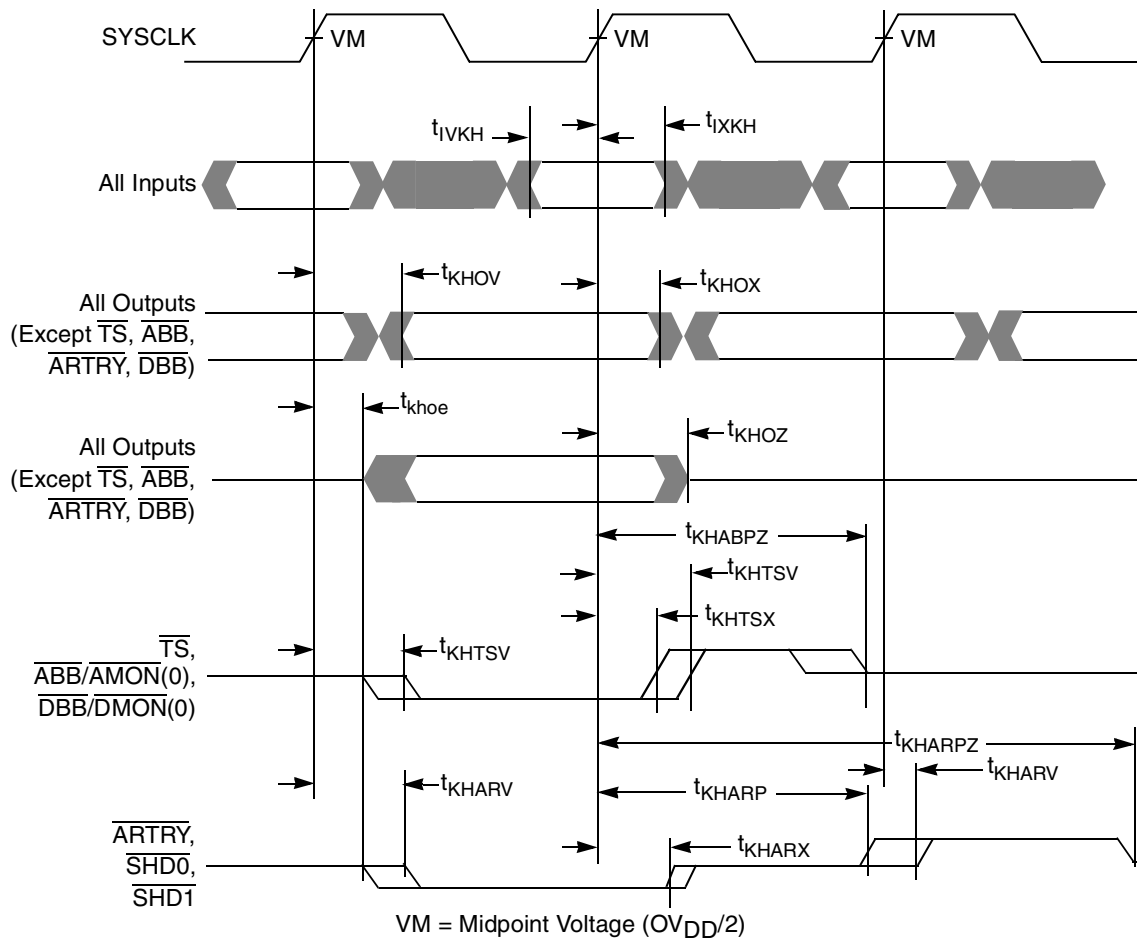

Figure 6. Input/Output Timing Diagram
- According to the 60x bus protocol, $\overline{\text{ABB}}$ and $\overline{\text{DBB}}$ are driven only by the currently active bus master. They are asserted low then precharged high before returning to high-Z as shown in Figure 6. The nominal precharge width for $\overline{\text{ABB}}$ or $\overline{\text{DBB}}$ is $0.5 \times t_{\text{SYSCLK}}$, that is, less than the minimum t_{SYSCLK} period, to ensure that another master asserting $\overline{\text{ABB}}$, or $\overline{\text{DBB}}$ on the following clock will not contend with the precharge. Output valid and output hold timing is tested for the signal asserted. Output valid time is tested for precharge. The high-Z behavior is guaranteed by design.
- According to the 60x bus protocol, $\overline{\text{ARTRY}}$ can be driven by multiple bus masters through the clock period immediately following $\overline{\text{AACK}}$. Bus contention is not an issue since any master asserting $\overline{\text{ARTRY}}$ will be driving it low. Any master asserting it low in the first clock following $\overline{\text{AACK}}$ will then go to high-Z for one clock before precharging it high during the second cycle after the assertion of $\overline{\text{AACK}}$. The nominal precharge width for $\overline{\text{ARTRY}}$ is $1.0 t_{\text{SYSCLK}}$; that is, it should be high-Z as shown in Figure 6 before the first opportunity for another master to assert $\overline{\text{ARTRY}}$. Output valid and output hold timing are tested for the signal asserted. Output valid time is tested for precharge. The high-Z behavior is guaranteed by design.
Figure 6 provides the input/output timing diagram for the MPC7410.